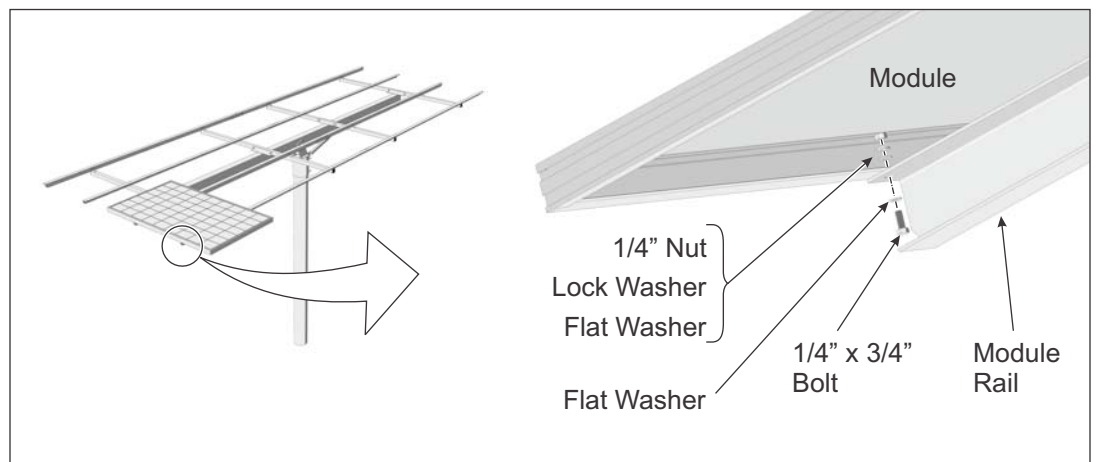

Figure 5-1: Installing PV Modules to Module Rails
- Place a southern most PV Module on the Module Rails. Align the mounting holes and secure with 1/4" x 3/4" bolts and hardware; each Module has four attachment points. Finger-tighten for now. (See Figure 5-1)